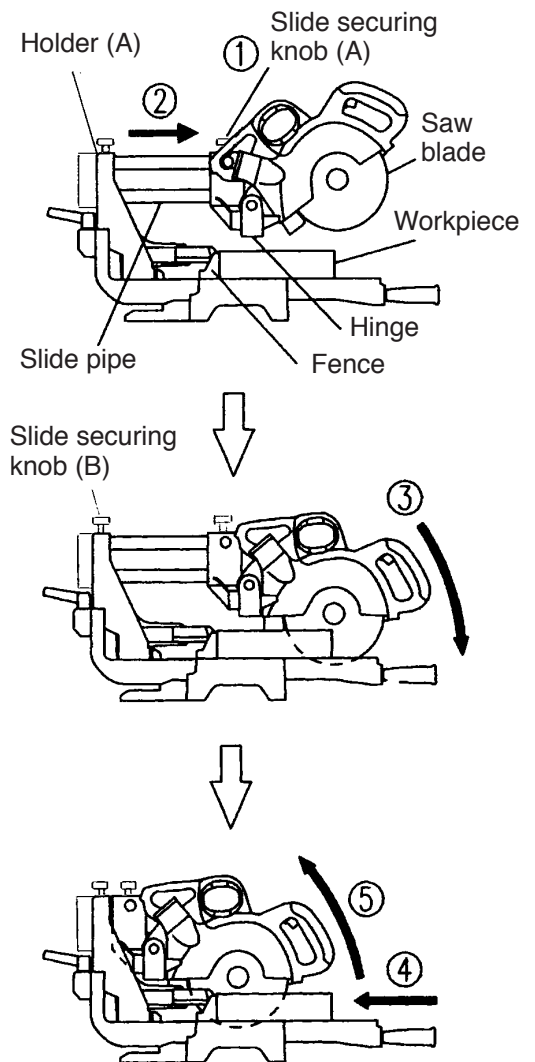

Fig. 36
- (1) Cutting efficiency will be reduced if a dull saw blade is used, if an excessively long extension cord is used, or if the wire gauge of the extension cord is too small. (For details, refer to the Instruction Manual "USE PROPER EXTENSION CORD.") This is particularly important when cutting materials with dimensions which are at or near the maximum capacity for the machine.
- (2) The customer should be advised to thoroughly inspect the workpiece to ensure that there are no metallic objects (nails in particular), sand, or other foreign matter in or on the workpiece. Contacting such foreign matter will not only shorten the service life of the saw blade, but could cause serious accident. Should the saw blade tips be broken off, the tips may fly toward the operator.
(3) **Press cutting (③ in Fig. 36)**
(4) **Slide cutting (① to ⑤ in Fig. 36)**
Instruct the customer to always slide the saw blade section toward the fence while cutting, as shown by arrow ④ in Fig. 36.
- ⑤ On completion of the cutting operation, turn the switch off and wait for the saw blade to come to a complete stop before raising the handle to its original position. Raising the handle while the saw blade is still rotating may cause unwanted cutting marks on the workpiece.